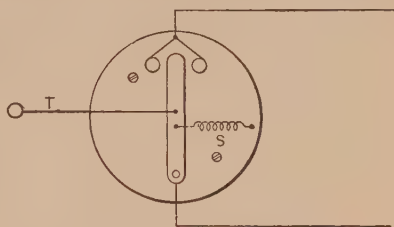

FIG. 200. Open-circuit "trap."
In an open-circuit system, a modification of this device is used as shown in Fig. 200. The slightest change in tension on the string *T* now closes the circuit, either on one button or the other.
**Prob. 14.** Make a diagram of a simple burglar-alarm system using the device of Fig. 200 for a "trap."